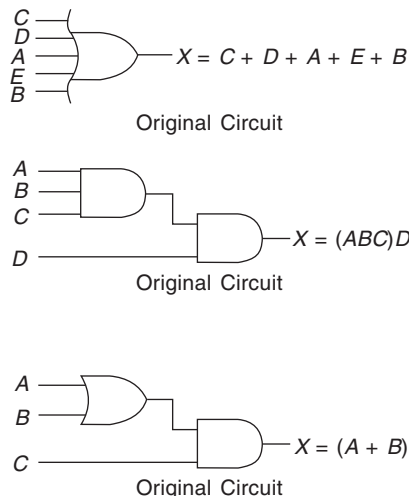

Fig. 5.16
5.40 State the Boolean law that makes each of the equivalent circuits shown in Fig. 5.16 valid.